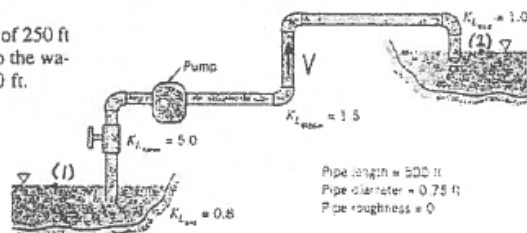

FIGURE P8.97
8.97 The pump shown in Fig. P8.97 delivers a head of 250 ft to the water. Determine the power that the pump adds to the water. The difference in elevation of the two ponds is 200 ft.